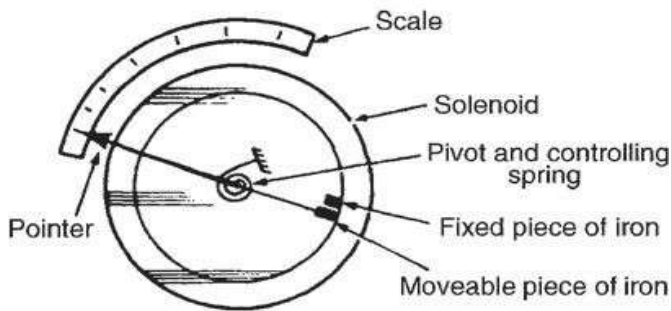

Fig.7.10 Repulsion type instrument.
**Construction:** Two iron pieces one is fixed and other is movable taken inside the influence of the magnetic field. The magnetic field is produced by the bobbin shaped electromagnet. Moving iron is connected to spindle and fixed iron to bobbin. This instrument is shown in Fig.7.10 below.